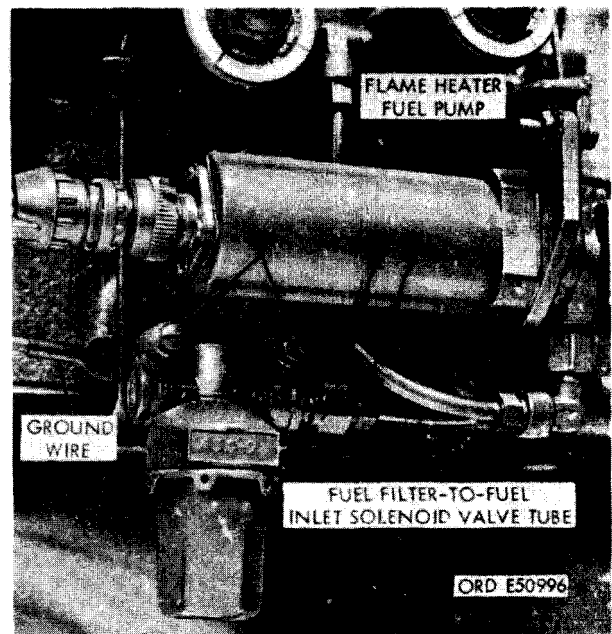

FIGURE 141. REMOVING OR INSTALLING FLAME HEATER FUEL FILTER ASSEMBLY.
- (1) Figure 141. (A) Disconnect fuel filter-to-fuel inlet solenoid valve tube from 1/4 tube x 1/8 pipe union in filter outlet port. (B) Remove union from fuel filter. (C) Remove two No. 10 plain nuts, No. 10 lock washers and No. 10 x 1-3/4 machine screws securing fuel filter to flame heater fuel pump and filter bracket. Remove fuel filter. Disconnect ground wire when machine screw is removed.
D. Installation. Refer to figure 141 and reverse the sequence of instructions to install the flame heater fuel filter assembly.